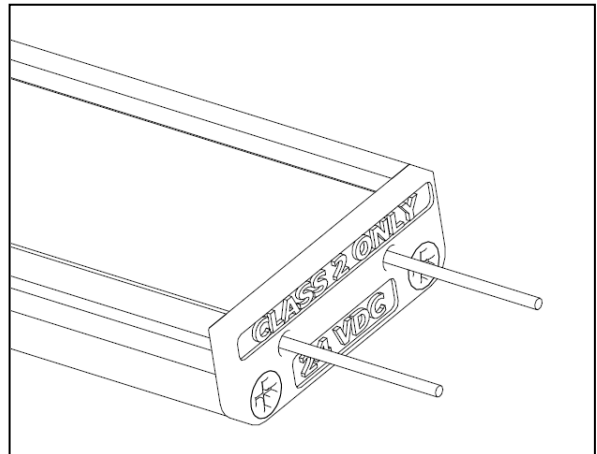

Figure 4. Inserted Pins.
5. To install each additional module in a straight run, insert two connection pins in one end of the module as shown on Figure 4. Make sure the pins are inserted all the way and their exposed ends do not exceed 5/8 of an inch. You may use a block of wood to insert the pins, but do not apply excessive force.